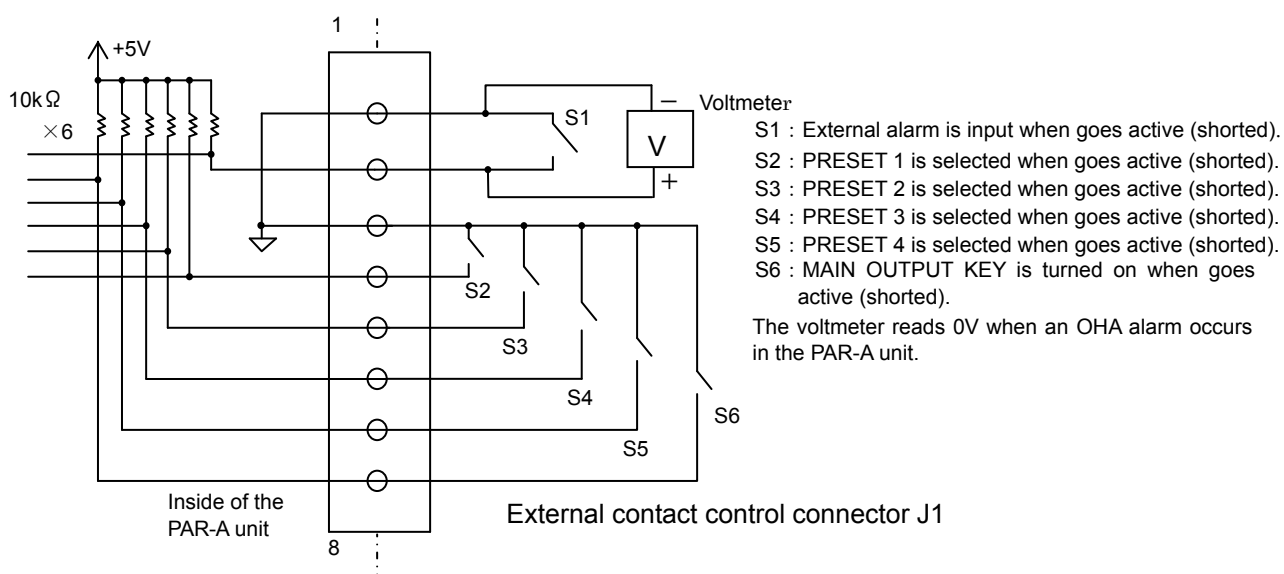

Fig.10 Usage of External Contact Control
- When some of S1 to S6 shown in Fig.10 is turned on, the LED of the KEY LOCK/LOCAL key on the front panel blinks in green.
- When S6 shown in Fig.10 goes active (i.e., pins 3 and 8 are short-circuited), the MAIN OUTPUT key is turned on. Note that the MAIN OUTPUT key is always active, except an alarm status, when pins 3 and 8 are short-circuited.
- It is possible to select PRESET 1 key to PRESET 4 key by turning on (i.e., short-circuiting) S2 to S5 shown in Fig.10.
- If the exhaust air temperature becomes too high and an OHA (overheat alarm) occurs, pin 2 shown in Fig.10 goes Low. The OHA function may be checked with a voltmeter connected as shown in Fig.10.
- It is possible to bring the PAR-A power supply unit into the alarm status by turning on S1 shown in Fig. 10 (i.e., short-circuiting pins 1 and 2). It is possible to maintain the alarm status by keeping S1 on.